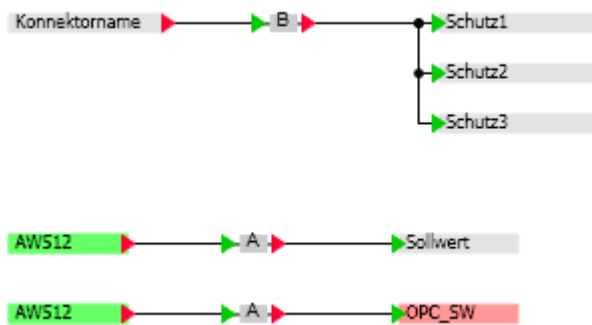

Figure 3-5: Connecting connectors
- Connectors (peripheral connectors or global connectors) cannot be connected directly to each other. As shown in the example in Figure 3-5, connectors can be connected with the aid of connecting components.